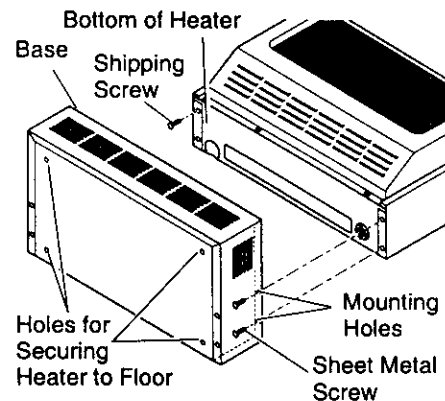

Figure 18 - Attaching Heater to Hearth Base
1. Position hearth base in desired location. Mark holes for drilling (See Figure 18). Remove hearth base.
3. Line up mounting holes on top of hearth base with holes in bottom of heater (see Figure 18).
4. Using a Phillips screwdriver, secure hearth base to heater with four sheet metal screws (see Figure 18).